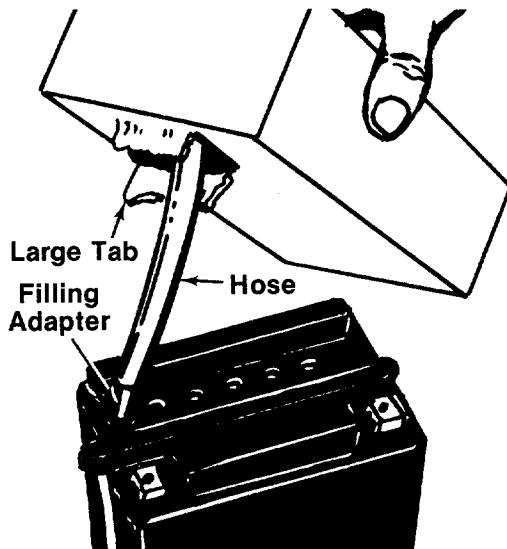

FIGURE 3.
6. Pull out hose from package and hold upright. Squeeze hose forcing all acid back into package. Cut off tip of hose and insert filling adapter. See figure 3.
7. Fill each cell to upper level marked on front of battery. Replace fill caps on battery. See figure 3.